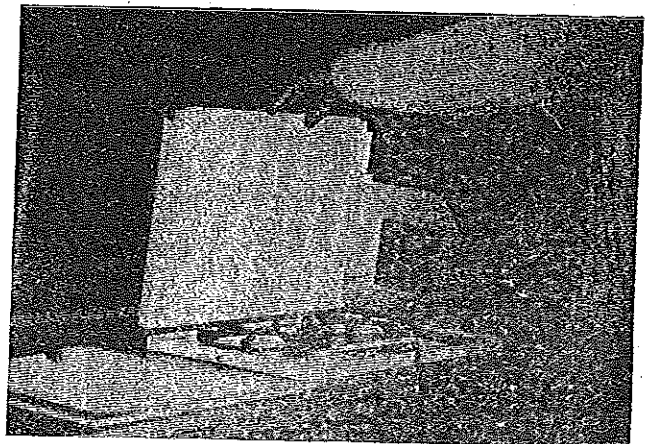

FIGURE 33
42. Unfasten the catch securing the stove cover. Raise the stove cover into position. Rotate the splash guard toward side of stove and fasten to side of cooktop with twist latch. See Figure 33.
7. Turn L.P. burners to off. Pull the stove cover down and secure for travel with the catch. See Figure 33.